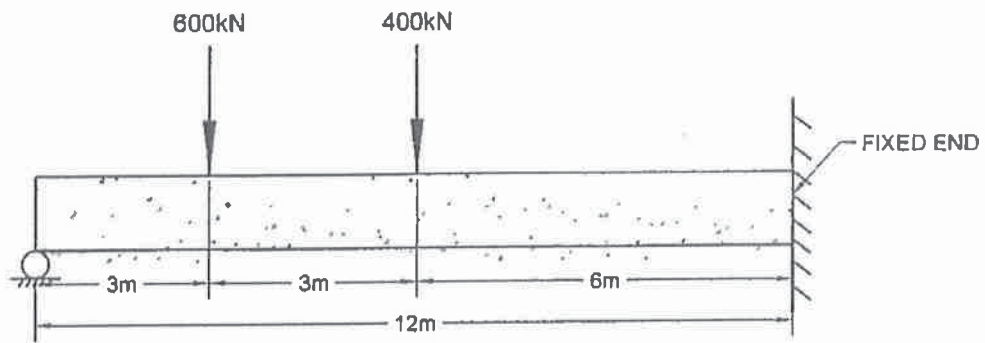

FIGURE 2
3. The prestressed concrete girder in Figure 2 is to be post-tensioned.